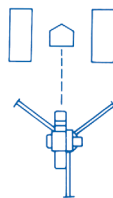
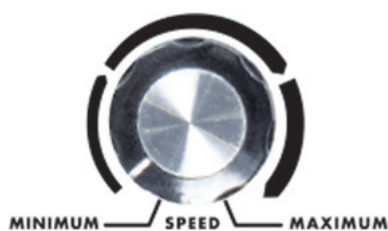

Figure 11
Figure 12
- Select the correct feed chute for your intended use. Your JUGS comes with two feed chutes: the larger one is for softball, the smaller is for baseball, lacrosse and field hockey (see Figure 11).
The rotating plate has 2 sets of bolt holes (see Figure 11). Use the bolts provided to attach the rubber pad bracket to the rotating plate described below (½-inch wrench).
2. Position the speed dial pointer on the control panel at MINIMUM (see Figure 12).
5. Position the rubber pad bracket until the bolt holes line up with the upper bolt holes in the rotating plate for softball use, or the lower bolt holes for baseball, field hockey or lacrosse use (see Figure 11).
2. Install the small diameter feed chute (baseball chute) for lacrosse (see Figure 11), and position the rubber pad bracket until the bolt holes line up with the lower set of bolt holes in the rotating plate (see Figure 12).
2. Install the small diameter feed chute (baseball chute) for field hockey (see Figure 11), and position the rubber pad bracket until the bolt holes line up with the lower set of bolt holes in the rotating plate (see Figure 12).
- e. Increase the speed of the ball by turning the dial clockwise (refer to Figures 12 and 13).